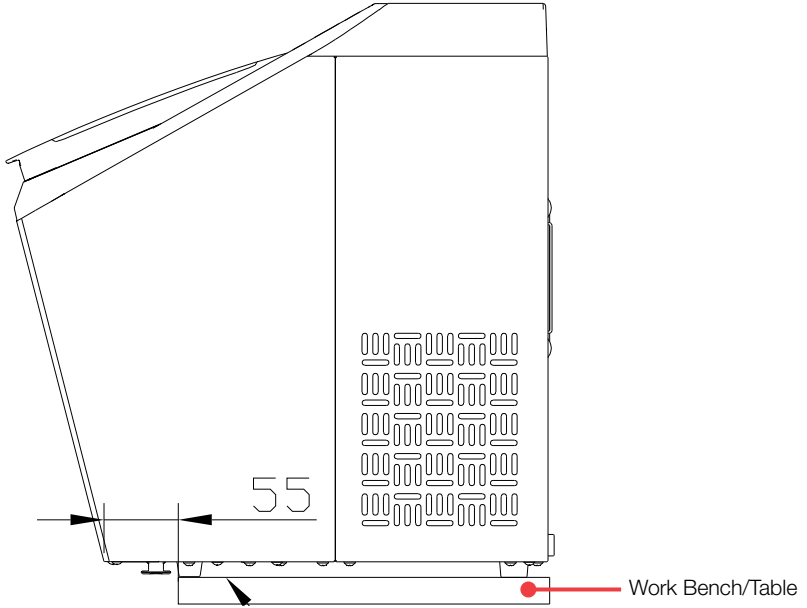
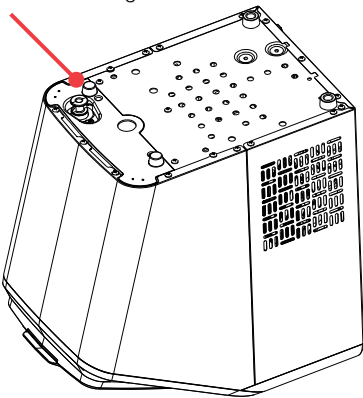
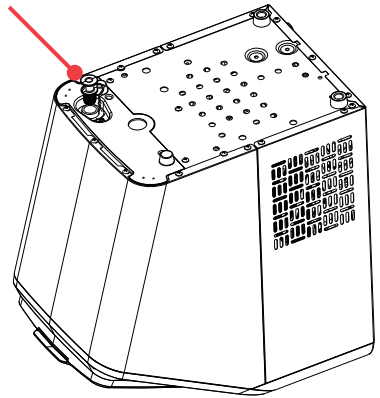

Fig. 1
Fig. 2
Fig. 3
3. Move the appliance forward 55-60mm away from the working table and remove the drain tube plug to drain excess water (see Fig.1, Fig.2 and Fig.3 on page 12).